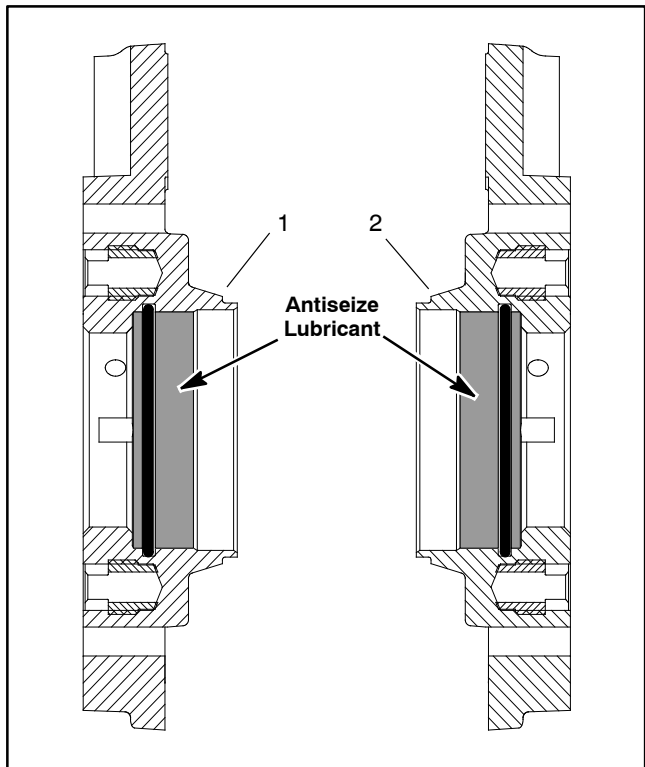

Figure 35
4. Apply a thin coat of antiseize lubricant to the reel bearing bore of each side plate (Fig. 35).